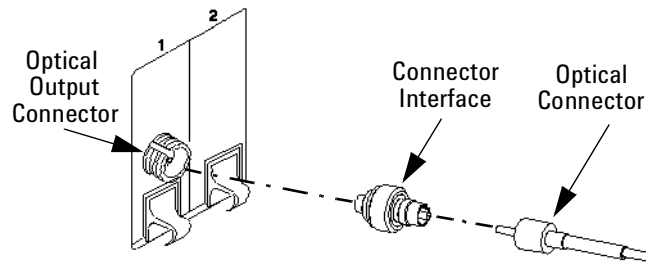

Figure 195 Adding a Connector Interface
- 2 Connect the connector interface to the optical output connector of the module, see Figure 195 .